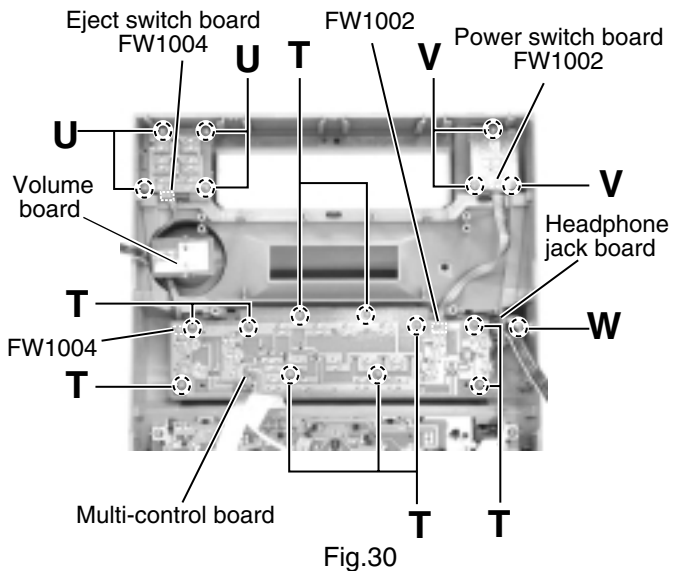

Fig.30
■ Removing each board in the front panel assembly (See Fig.30 and 31)
(See Fig.30)
~Volume board~ (See Fig.30 and 31)
~Eject switch board ~ (See Fig.30)
~Power switch board~ (See Fig.30)
~Headphone jack board~ (See Fig.30)